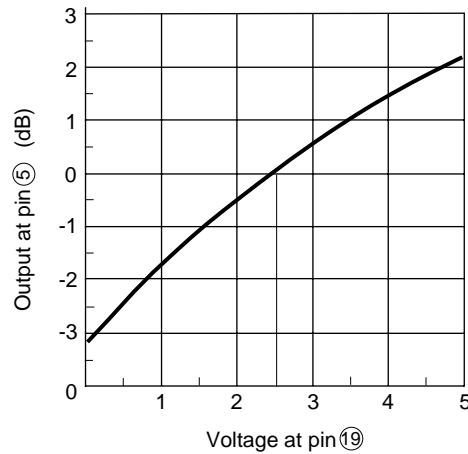

Fig. 3 Color control characteristics
(5) Color control characteristics
Gain in chroma section can be set as shown in Fig. 3 by applying voltage to pin ⑱ (COLOR CONT.). (The burst amplitude is fixed.)